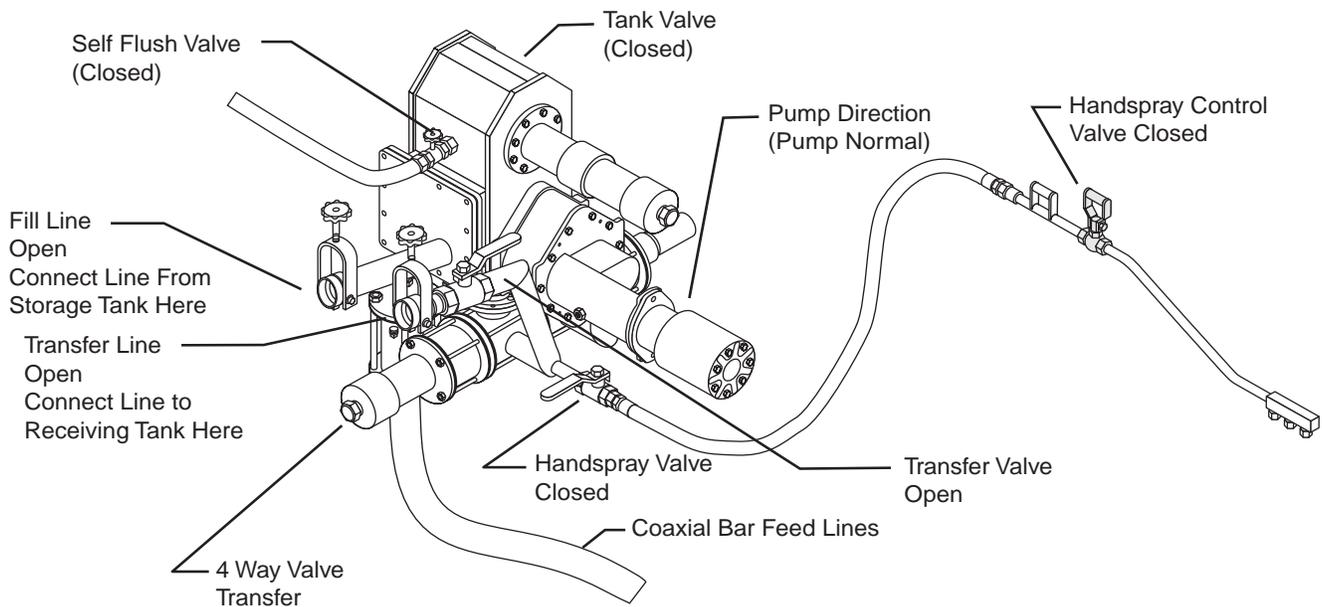

Figure 11 Valve Positions for Transfer Operation
4. Set all of the valve positions (see Figure 11).